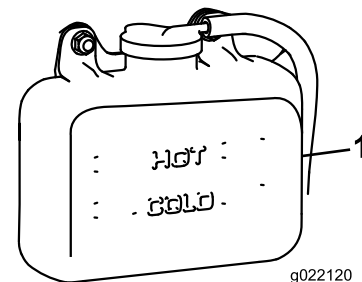

Figure 65
1. Check the level of the coolant in the expansion tank (Figure 65).